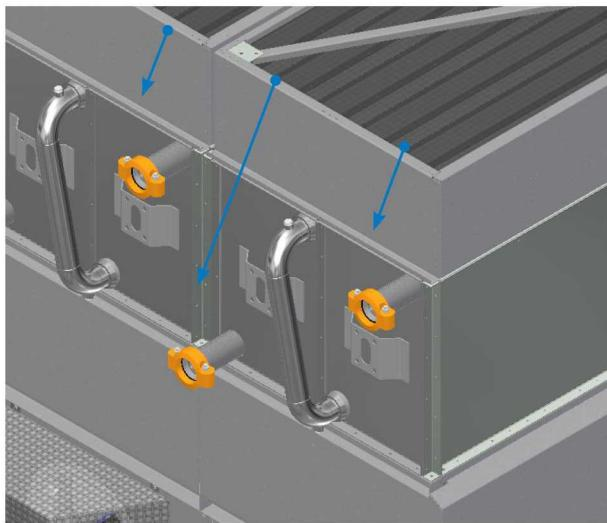

Fig. 20 Place flexible coupling (series flow shown)
1. Place the ND80 flexible coupling (Victaulic BAC #202174M6) onto the hCoreTM Heat Transfer Technology system. See figure 20.